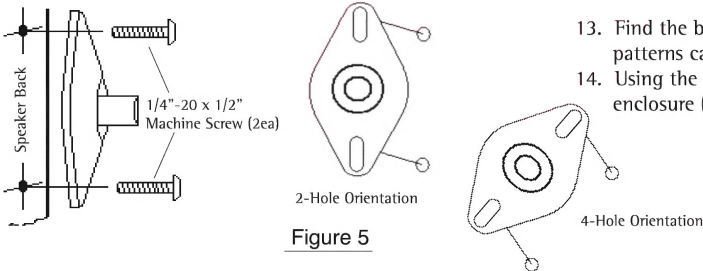

Figure 5
- 13. Find the best mounting configuration that matches your speaker enclosure. Four-hole speaker mount patterns can be accommodated by positioning the speaker plate diagonally (Figure 5).
- 14. Using the 1/4"-20 x 1/2" machine screws, install the speaker plate and secure the speaker enclosure (Figure 5).